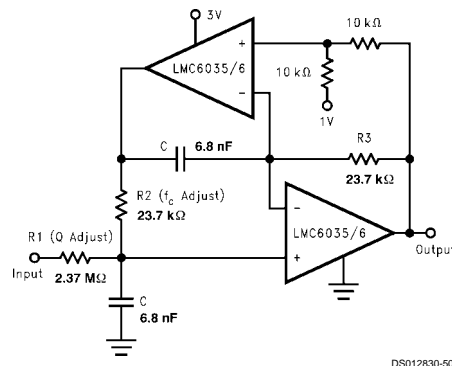

FIGURE 7. 2 Pole, 1 kHz Active, Bandpass Filter
The dual amplifier bandpass (DABP) filter features the ability to independently adjust f_c and Q. In most other bandpass topologies, the f_c and Q adjustments interact with each other. The DABP filter also offers both low sensitivity to component values and high Qs. The following application of Figure 7, provides a 1 kHz center frequency and a Q of 100.
- First choose a center frequency (f_c). Figure 7 represents component values that were obtained from the following computation for a center frequency of 1 kHz.